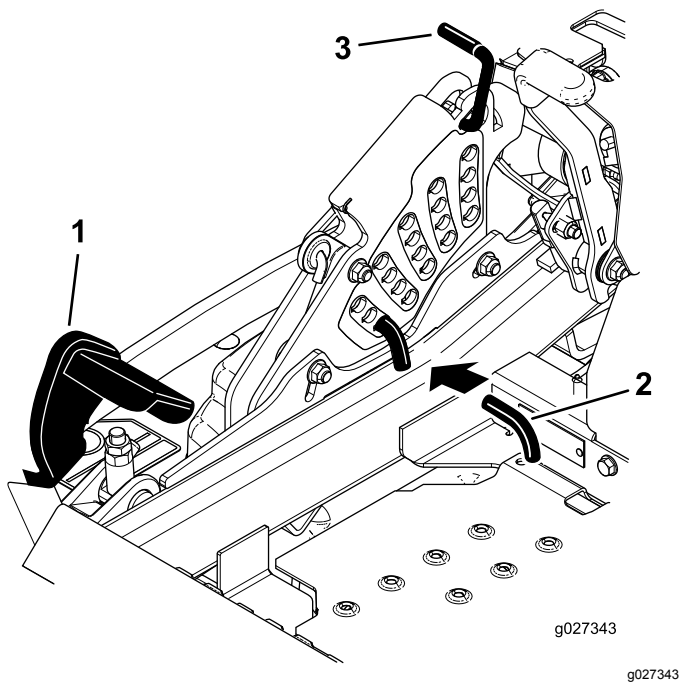

Figure 84
5. Push the deck-lift pedal all the way forward so that the deck latches at the 14 cm (5-1/2 inch) transport position (Figure 84).